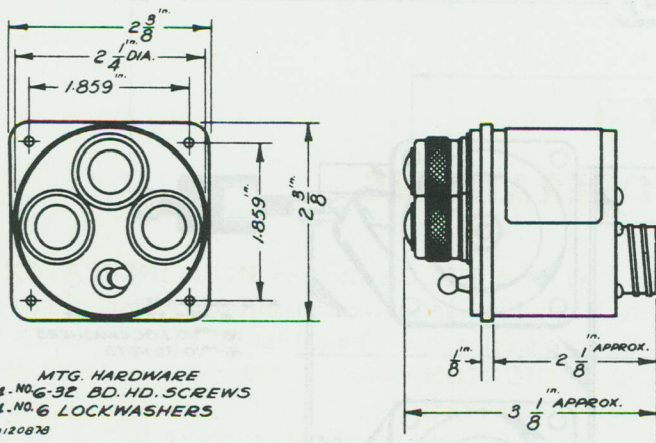

Figure 2-4. Mounting Dimensions of Type IN-5A Indicator
Place the indicator where it can be seen conveniently by the pilot, probably on the instrument panel near the other flight instruments. The amount of space required for the indicator is shown in figure 2-4. Allow clearance in the rear of the panel for fitting one connecting cable.
(1) The hardware required to fit the indicator IN-5A is not furnished with the equipment and consists of:
(2) To fit the indicator to the aircraft it is necessary to:
- i. Drill one clearance hole for the 2 1/4 inch diameter panel of the indicator in the center of the mounting surface and four clearance holes for No. 6-32 screws to match the tapped holes in the flange of the indicator. The relation between holes is shown in figure 2-4.